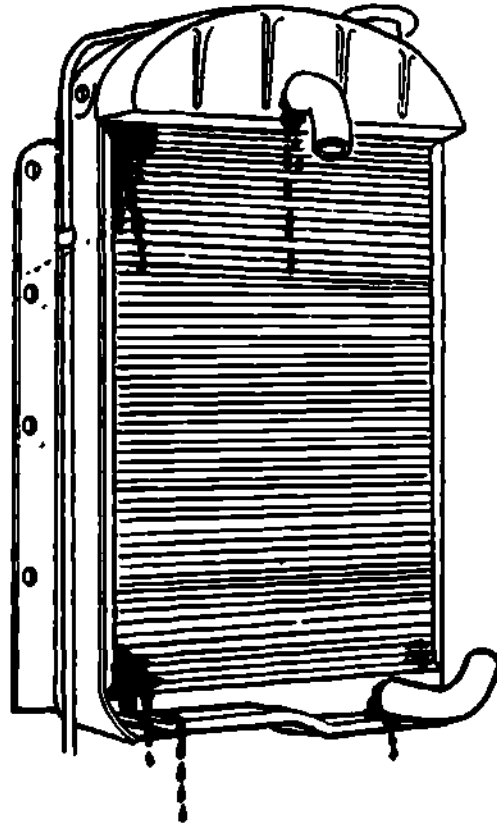

Fig 1-100. Radiator leakage.
a. **Radiator.** The radiator is a common area for leaks to appear. Leaks can appear any place on the radiator but have a tendency to appear at the joints of the upper and lower hose connections (fig 1-100). The next area is along the whole length of the top and bottom tanks, usually starting in a corner. The tubes that make up the core may also leak.